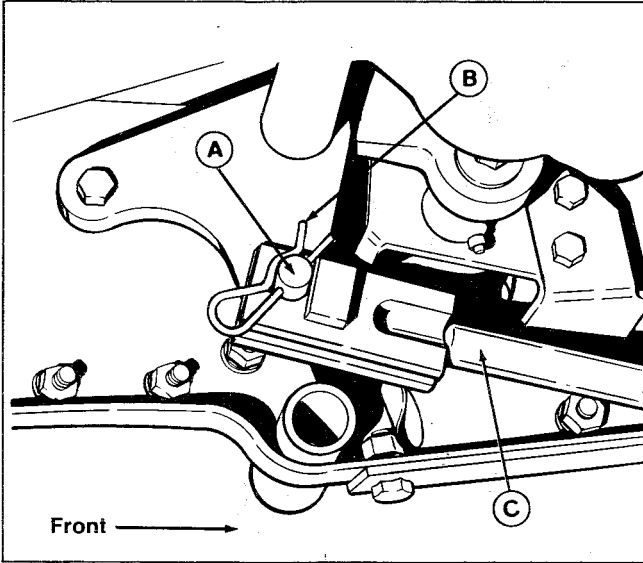
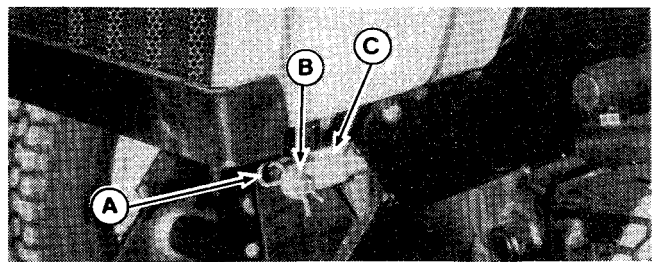

Figure 4.
Figure 7.
Under Tractor (See Figure 4)
4. Connect rear of lift rod (C, figure 4) to lift lever under tractor with pin (A) and clip (B). Route the lift rod under engine mount and above axle. Front of lift rod is shown in figure 7 extending under front bumper.
6. Connect the lift rod (C, figure 7) to the hitch with pin (B) and clip (A). Install pin so clip is to outside as shown.
To remove the dozer blade, disconnect hitch from tractor hitch, and disconnect handle from handle support. Also, be sure to remove the lift rod (C, figure 4) completely.